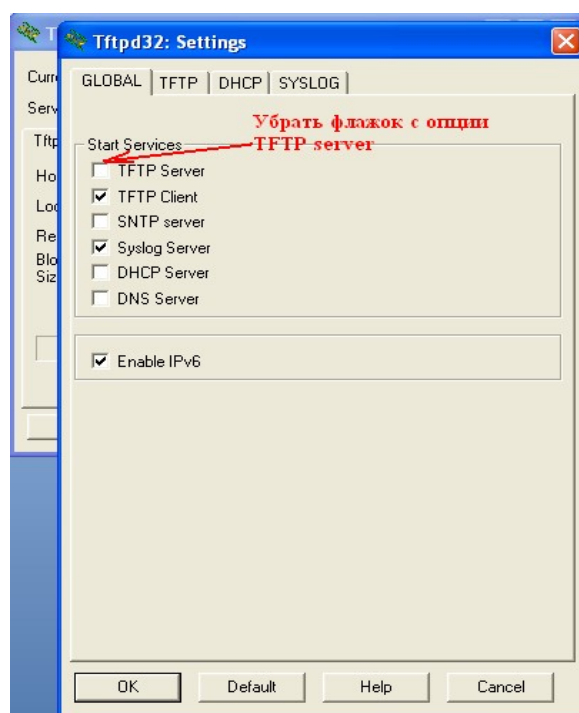

Figure 10 Tftpd32 utility, "Settings" tab
After first start of this utility you can (but not must) configure it to run only in tftp client mode, to do this you need to press "Settings" button (see **Figure.10**). In "Tftp Client" tab you need to enter IP address of AFEDRI SDR-Net receiver.
3.1.6. To choose firmware file (it has .bin extension), press button "Local File" and find firmware file in "Select file" dialog that is appearing after the button was pressed. (see Figure.10)